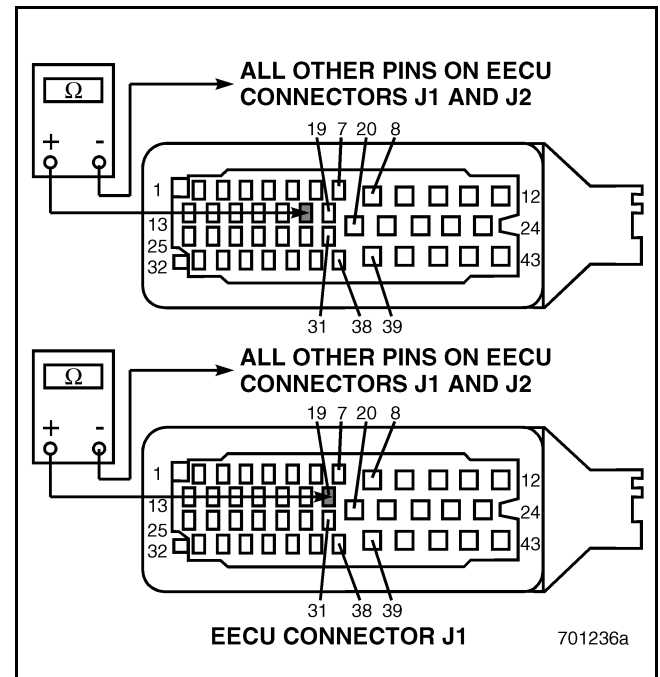

Figure 400
2. Disconnect the Engine Position (EP) Sensor.
4. Check for continuity between the circuit (connector J1 pin 18 or 19) that showed continuity in test 32, versus all other pins on EECU connectors J1 and J2 (see Figure 400).